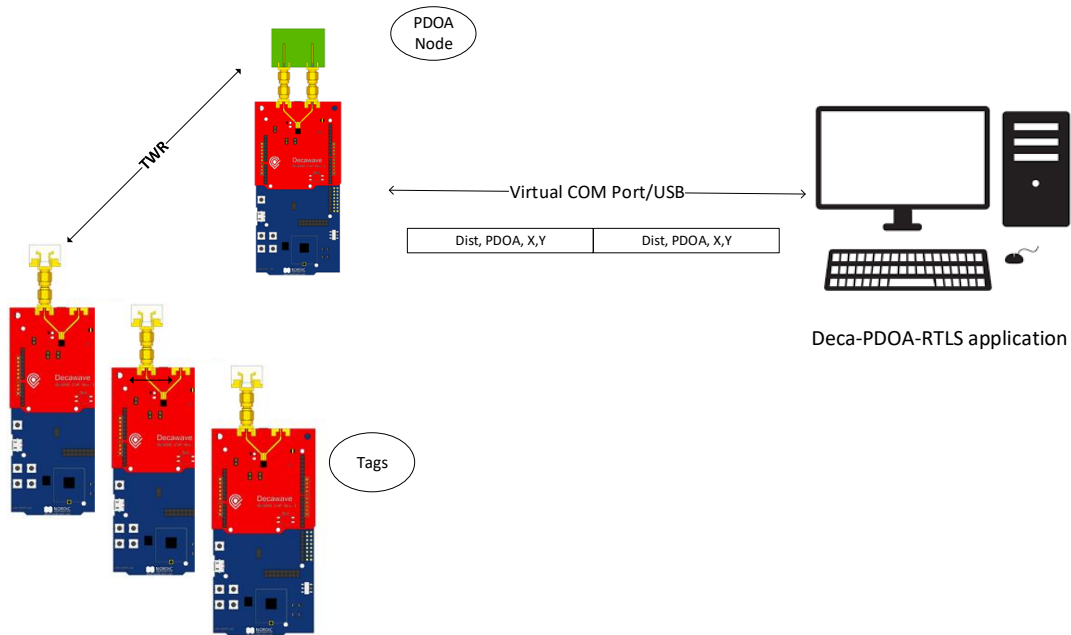

Figure 1: The PDoA Evaluation Kit system components
This document describes the Deca-PDoA-RTLS application and its source code. The application connects to the PDoA node (running the PDoA node application), and consumes the range and phase difference (PD) and x,y position reports coming from the PDoA node and plots tag's location estimate as seen from the node's point of view. Figure 1 shows the demo system.